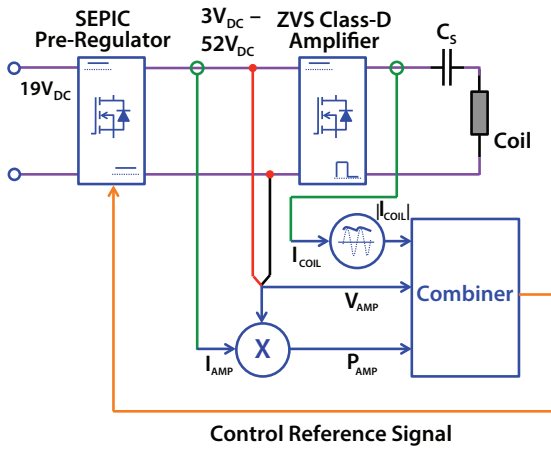
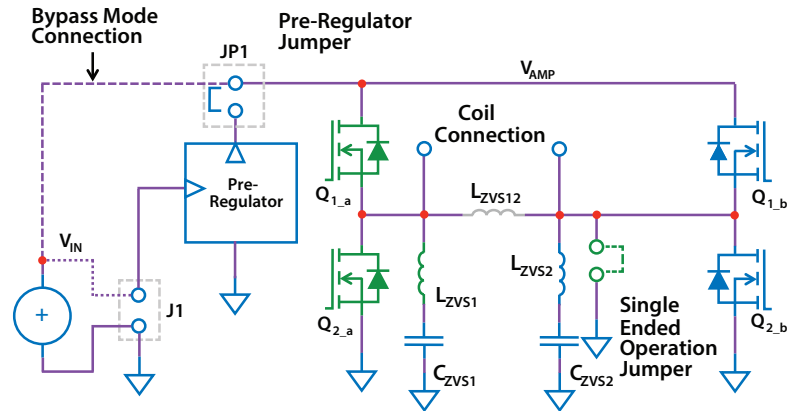

Figure 2: Block diagram of the EPC9509 wireless power amplifier
Figure 3: Diagram of EPC9509 amplifier circuit
Figure 2 shows the system block diagram of the EPC9509 ZVS class-D amplifier with pre-regulator and Figure 3 shows the details of the ZVS class-D amplifier section. The pre-regulator is used to control the ZVS class-D wireless power amplifier based on three feedback parameters 1) the magnitude of the coil current indicated by the green LED, 2) the DC power drawn by the amplifier indicated by
2. With power **off**, connect the **main** input power supply bus to J1 as shown in Figure 3. Note the polarity of the supply connector.
2. With power **off**, connect the **main** input power supply bus +V_{IN} to the bottom pin of JP1 and the ground to the ground connection of J1 as shown in Figure 3.